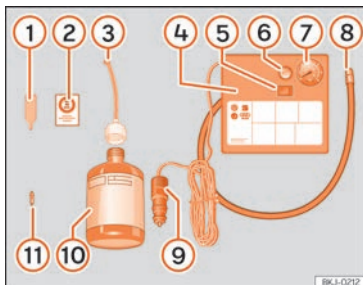

Fig. 32 Standard representation: anti-puncture kit contents.
The anti-puncture kit is located underneath the floor covering in the luggage compartment. It includes the following components » **Fig. 32:**
- Unscrew the tyre valve cap and insert. Use the » **Fig. 32** ① tool to remove the insert. Place it on a clean surface.
- Shake the tyre sealant bottle vigorously » **Fig. 32** ⑩.
- Screw the inflator tube » **Fig. 32** ③ into the sealant bottle. The bottle's seal will break automatically.
- Remove the lid from the filling tube » **Fig. 32** ③ and screw the open end of the tube into the tyre valve.
- Place the insert back into the tyre valve using the tool » **Fig. 32** ①.
- Screw the compressor tyre inflator tube » **Fig. 32** ⑧ into the tyre valve.
- Check that the air bleed screw is closed » **Fig. 32** ⑥.
- Insert the connector » **Fig. 32** ⑨ into the vehicle's 12-volt socket » **page 146**.
- Turn the air compressor on with the ON/OFF switch » **Fig. 32** ⑤.
- Attach the sticker » Fig. 32 ② to the instrument cluster, within the driver's visual field.
Screw the inflator tube » Fig. 32 ⑤ again and check the pressure on the gauge ⑥.